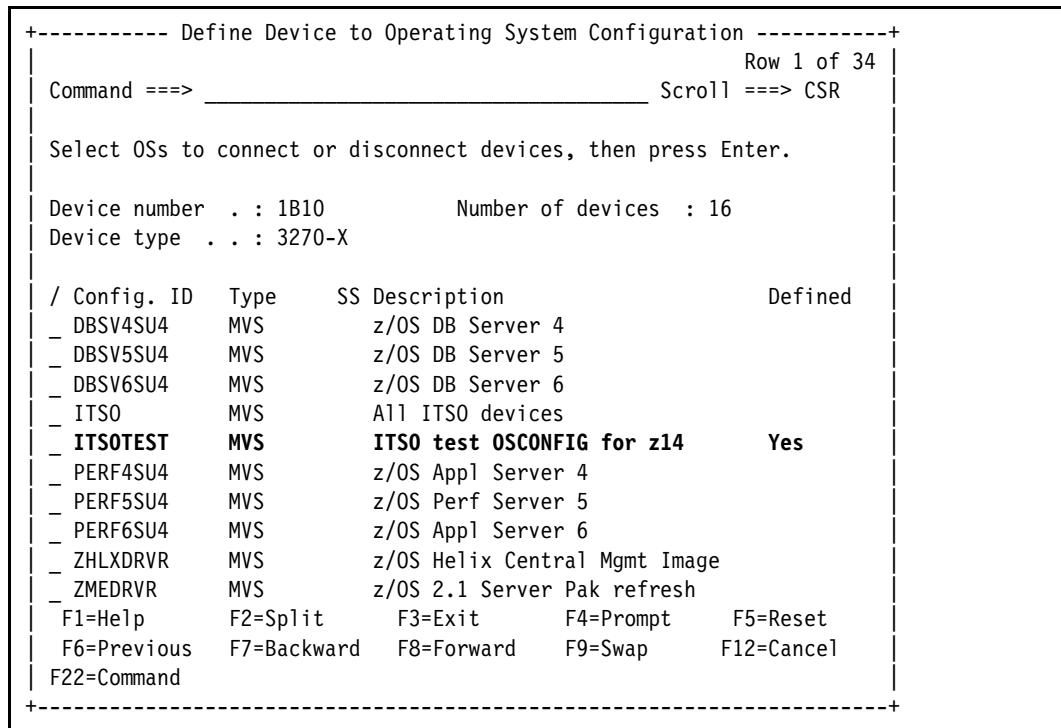

Figure 13-11 I/O Devices: Assign/Unassign Device to Esoteric, OSC
9. The Assign/Unassign Device to Esoteric panel is now displayed where you can specify which Esoteric (if any) you want the devices to be added to. Press **Enter** (Figure 13-11).